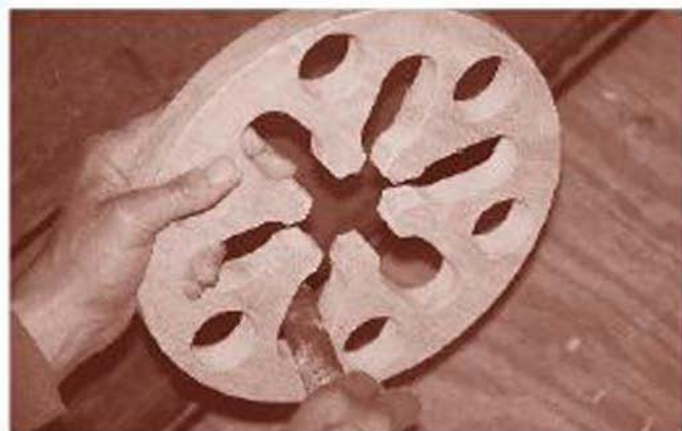

FIGURE 19-7
- 8** Finally, use progressively finer grades of sandpaper to get a smooth finish. Pay particular attention to the sides of the piston chambers (Figure 19-7).